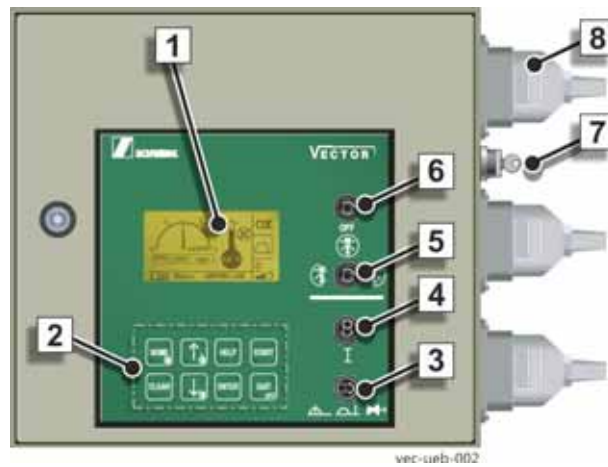
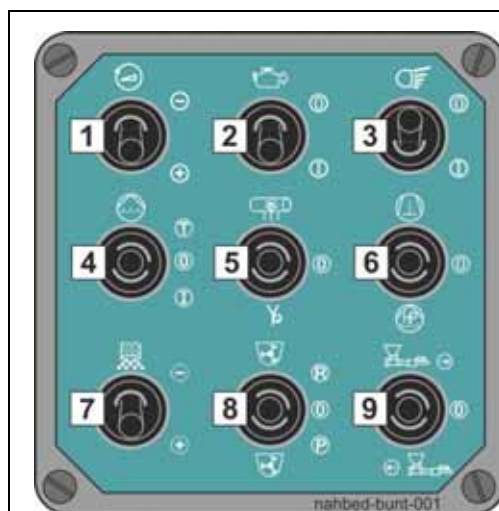

Fig. 74
Fig. 76 Local control
Activate the "LOCAL" operating mode using switch (3) on the switch cabinet of the VECTOR control system (Fig. 74).
Release the "LOCAL" operating mode with button (4) (Fig. 74).
A short acoustic signal confirms the release and field (4) (Fig. 74) shows this symbol.
Symbol flashing: Switch for local control (3) (Fig. 74) is enabled! Set all switches for the local control unit (Fig. 76) / (Fig. 77) to position 0!